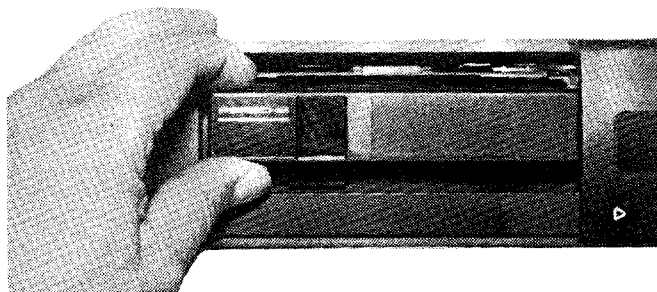

Figure 3a
2. Remove the magazine and remove any compact discs in the magazine. Check the magazine for distortion or damage. Replace if necessary (see Figures 3a and 3b).